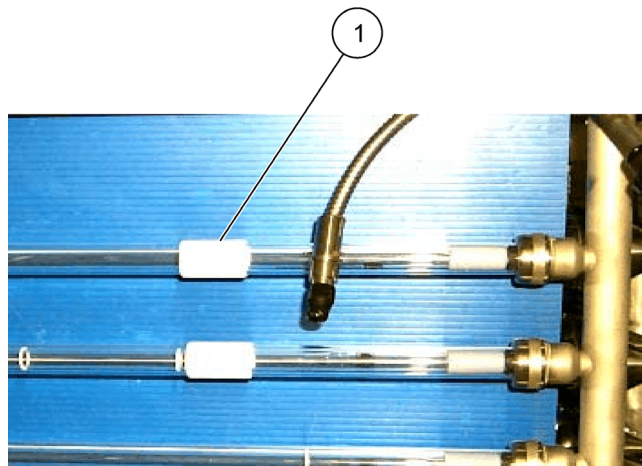

Figure 12 UV Sensor
1. If necessary, remove UV sensor body from new sensor assembly. Refer to Figure 12.